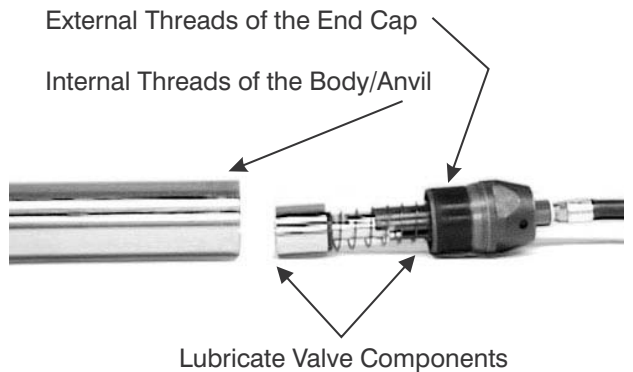

Figure 9-23. Prepare Tail Assembly and Body Anvil for Assembly.
3. Apply anti-seize thread lubricant sparingly to the threads of the End Cap (15) and the Body/Anvil (1). See Figure 9-23.